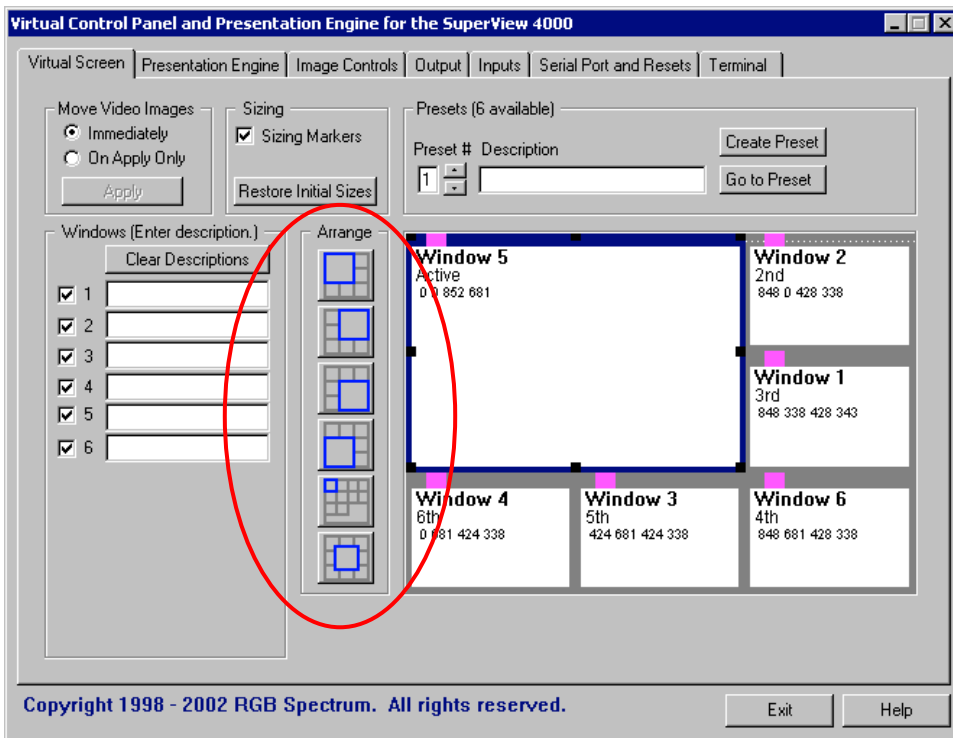

Figure 12. SV3000 VCP Virtual Screen Menu
After the connection has been made the Virtual Screen page is displayed (see **Figure 12**).
1. To avoid the problem of a window overlapping and obscuring one of the other windows, set up a window arrangement of tiled windows. A variety of pre-set arrangements is provided on the **Virtual Screen** page (**Figure 12**). Click on the **Virtual Screen** tab